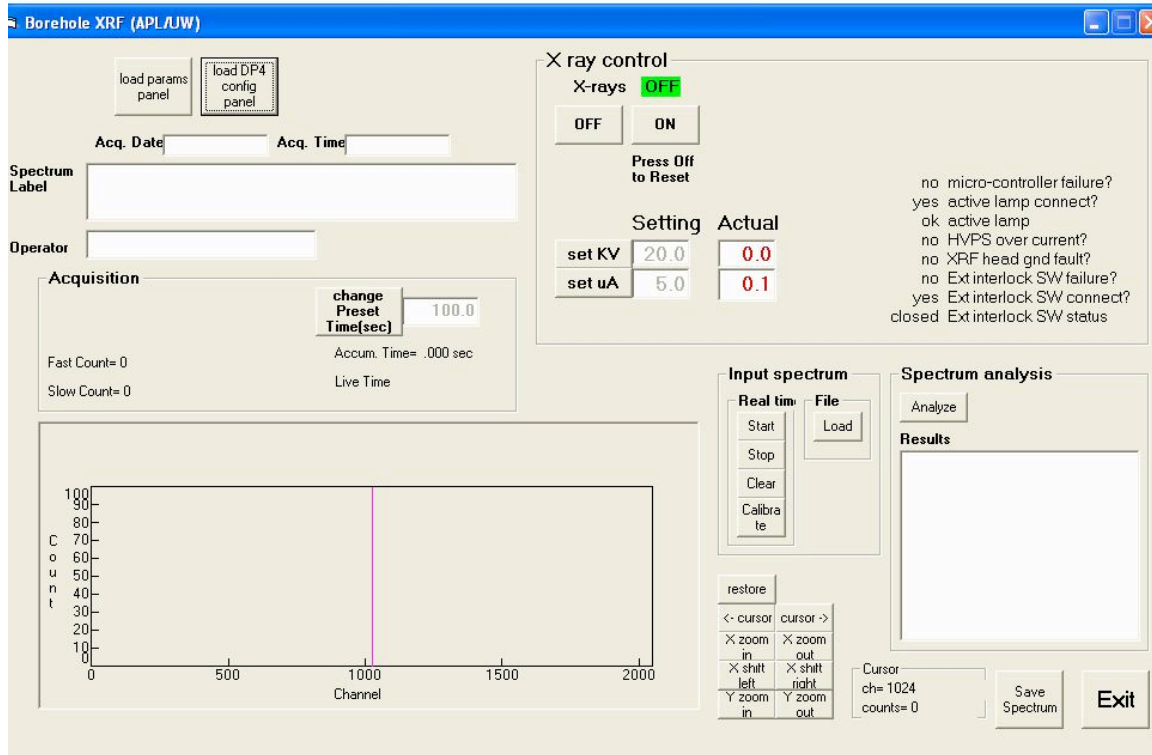

Figure 4. Main screen view upon starting the program "BoreholeXRF"
3. Start the program “BoreholeXRF”; the main screen appears (Figure 4).